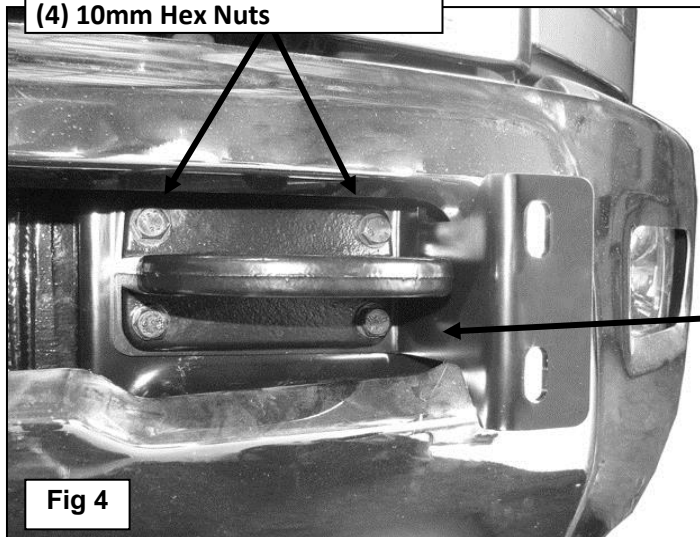

Fig 4
2. Remove the driver side tow hook, **(Figure 2)**. **NOTE:** The factory hex bolts and nuts securing the inner (2) tow hook bolts may be difficult to remove. Assistance is recommended. Use a socket with a long extension to reach the hex nuts on the inner tow hook bolts. Once the tow hook has been removed, **(Figure 3)**, select the driver side Frame Bracket and place it between the tow hook and the frame. Secure the tow hook and Frame Bracket to the vehicle with (4) 10mm x 45mm Hex Bolts, (8) 10mm Flat Washers, (4) 10mm Lock Washers and (4) 10mm Hex Nuts, **(Figure 4)**. Snug but do not tighten hardware at this time.
- (4) 10mm x 45mm Hex Bolts
- (8) 10mm Flat Washers